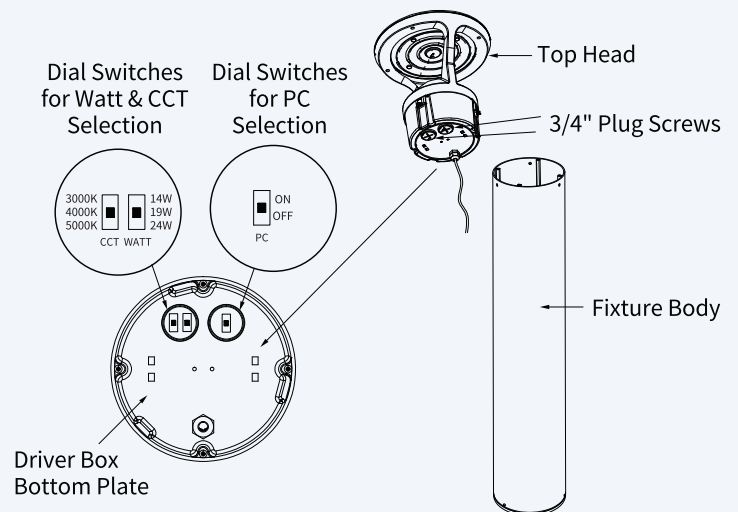

Fig 4
5. Remove the 3/4" plug screws, and select desired wattage & CCT, select desired PC on/off, through the dial switches on the driver box bottom plate. **Fig. 4**